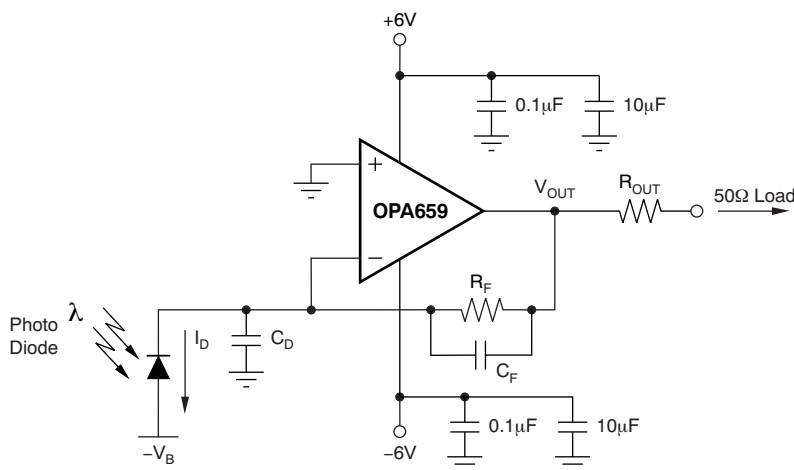

Figure 39. Wideband, Low-Noise, Transimpedance Amplifier (TIA)
The input voltage noise of a transimpedance amplifier is peaked up over frequency by the diode source capacitance, and in many cases, may become the limiting factor to input sensitivity. The key elements to the design are the expected diode capacitance (C_D) with the reverse bias voltage ($-V_B$) applied, the desired transimpedance gain, R_F , and the GBP for the OPA659 (350 MHz). Figure 39 shows a general transimpedance amplifier circuit, or TIA, using the OPA659. Given the source diode capacitance plus parasitic input capacitance for the OPA659, the transimpedance gain, and known GBP, the feedback capacitor value, C_F , may be calculated to avoid excessive peaking in the frequency response.
3. **Careful selection and placement of external components preserves the high-frequency performance of the OPA659.** Resistors should be a very low reactance type. Surface-mount resistors work best and allow a tighter overall layout. Metal film and carbon composition, axially-leaded resistors can also provide good high-frequency performance. Again, keep the leads and PCB trace length as short as possible. Never use wirewound-type resistors in a high-frequency application. The inverting input pin is the most sensitive to parasitic capacitance; consequently, always position the feedback resistor as close to the negative input as possible. The output is also sensitive to parasitic capacitance; therefore, position a series output resistor (in this case, R_{ISO}) as close to the output pin as possible. Other network components, such as noninverting input termination resistors, should also be placed close to the package. Even with a low parasitic capacitance, excessively high resistor values can create significant time constants that can degrade device performance. Good axial metal film or surface-mount resistors have approximately 0.2 pF in shunt with the resistor. For resistor values greater than 1.5 k Ω , this parasitic capacitance can add a pole and/or zero below 500 MHz that can affect circuit operation. Keep resistor values as low as possible, consistent with load driving considerations. TI recommends keeping $R_F \parallel R_G$ less than 250 Ω . This low value ensures that the resistor noise terms remain low, and minimizes the effects of the parasitic capacitance. Transimpedance applications (for example, see Figure 39) can use the feedback resistor required by the application as long as the feedback compensation capacitor is set given consideration to all parasitic capacitance terms on the inverting node.